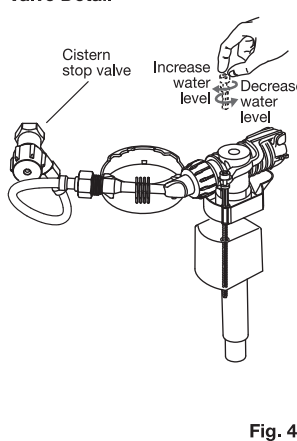

Fig. 4
- 5- Fit cistern stop valve (supplied) to the 1/2" B.S.P. nipple in the wall using approved thread seal, in the downward angled position as detailed in **Fig. 4**. Connect one end of flexible hose to cistern stop valve.
- 9- Adjust water level to the 4.5 litre water level mark inside the cistern by simply turning the float arm screw in a clockwise or anti-clockwise direction, as detailed in **Fig. 4**.